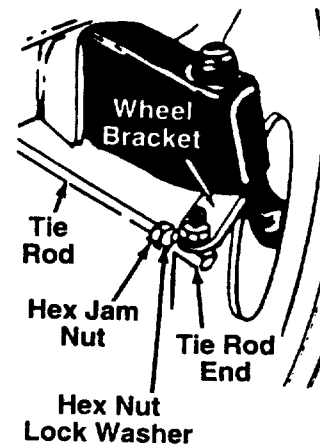

FIGURE 14.
1. Remove the hex nut and lock washer, and drop the tie rod end from the wheel bracket. See figure 14.
3. Adjust the tie rod assembly for correct toe-in. (See figure 14.) Retighten hex jam nut.